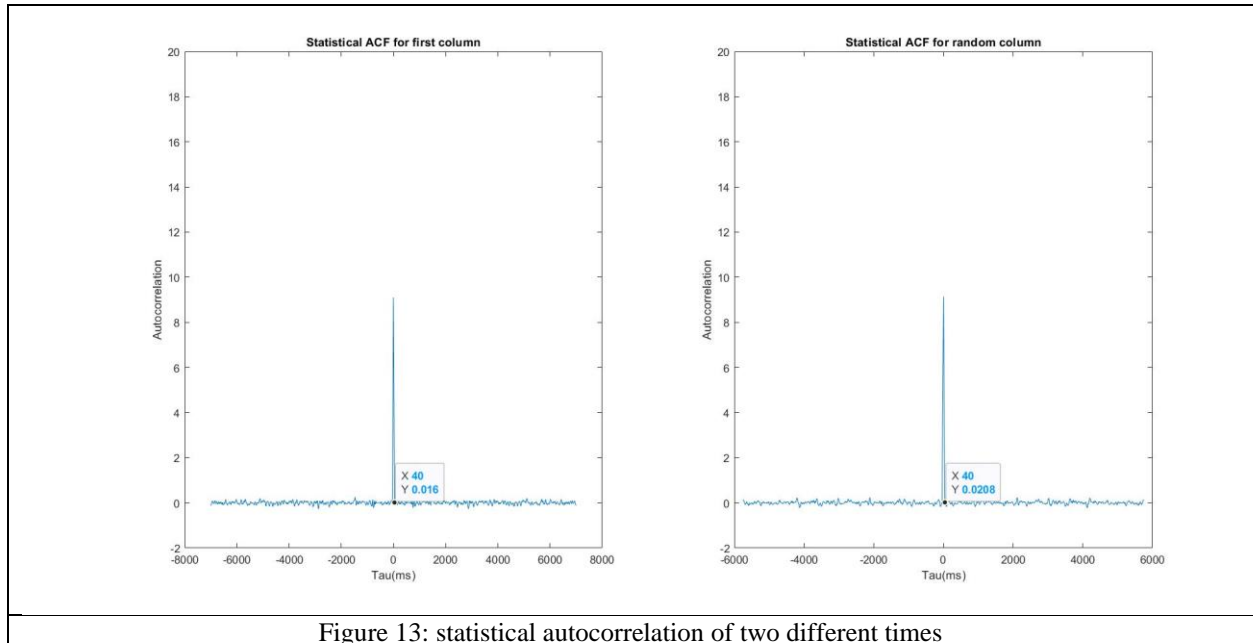

Figure 13: statistical autocorrelation of two different times
2. From figure 13, we compared the statistical autocorrelation at only two different times just to simplify instead of comparing with all times, so we can find that the autocorrelation is approximately the same in the two graphs.